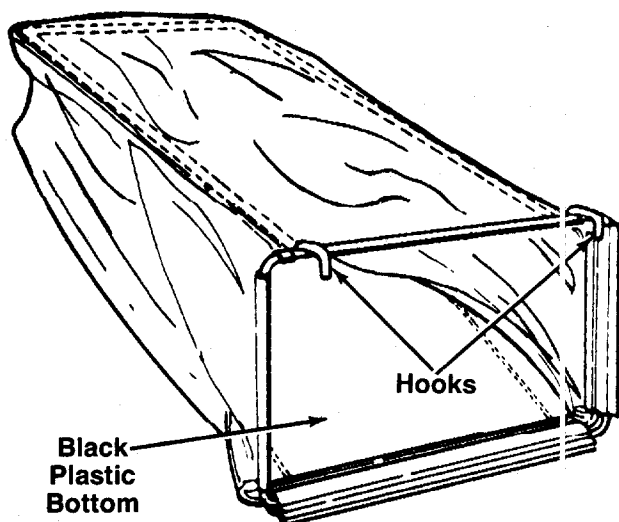

FIGURE 11.
2. Place the frame inside the grass catcher bag. The bottom of the grass bag is black plastic. The hooks on the front frame go toward the top of the bag. See figure 11.